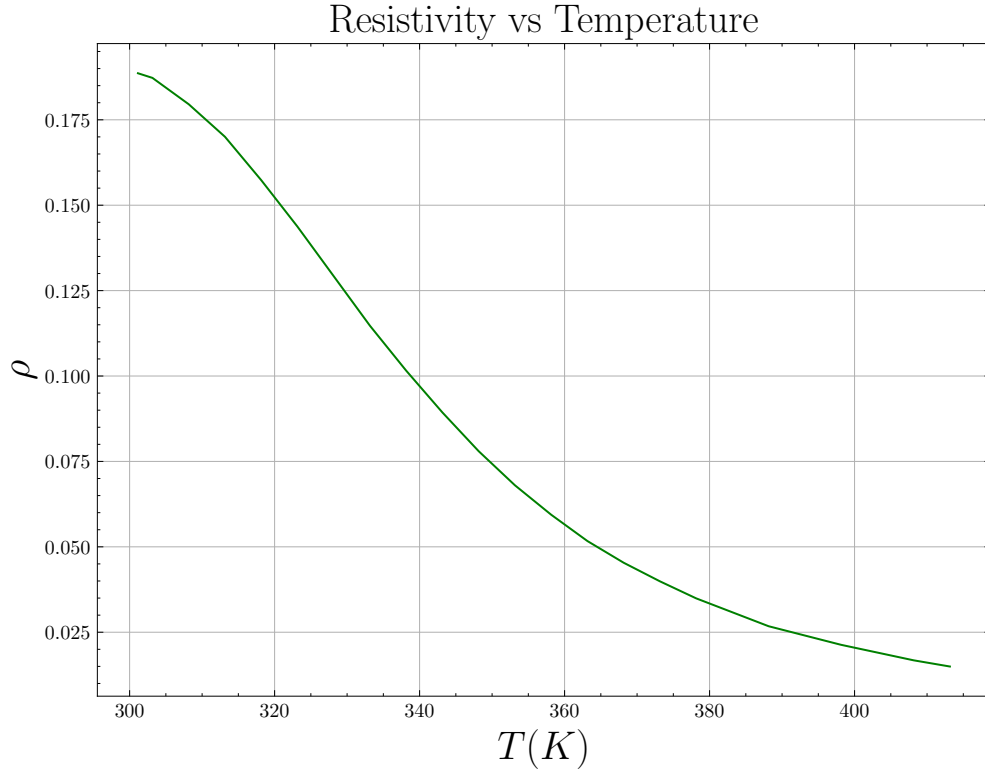

Figure 4: Resistivity vs Temperature for the material
The figure 4 shows the plot of resistivity vs temperature from the calculated resistivity values. Notice how only one portion of it behaves exponentially whereas initial values show a steady rate. This will be further explained in the discussions section.
The band gap energy calculated is acceptable for a **semiconductor**. For Germanium the value is about 0.67 eV which is very near to the value we get from the calculation. The Fig 4 doesn't exactly show an **exponential behaviour** throughout as is expected from the Eq (5). For low Temperatures, there is a steady state where the resistivity remains constant while the material heats. This is also seen in the plot 5 for high inverse temperature values we see deviation from straight line behaviour. During this heating time, the number of electrons being thermally excited to the conduction band is not large enough to affect the resistivity of the sample. Eventually after a certain temperature number of excited electrons becomes large enough to show the exponential behaviour as expected for a semiconductor.